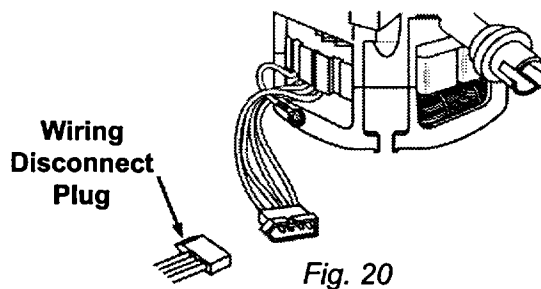

Fig. 20
2. Remove the toe panel by removing the four (4) screws (one at each corner of the toe panel).
3. Remove the wiring disconnect plug from the motor. (Fig. 20)